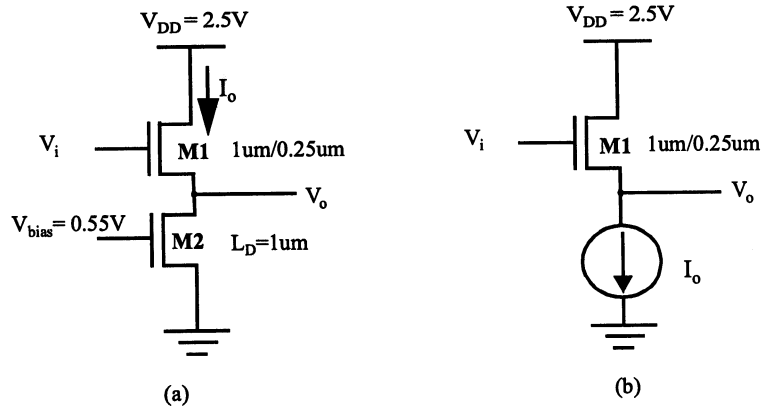

Figure 5.7 NMOS source follower configuration
9. The circuit in Figure 5.7 is known as the *source follower* configuration. It achieves a DC level shift between the input and the output. The value of this shift is determined by the current  $I_0$ . Assume  $x_d=0$ ,  $\gamma=0.4$ ,  $2|\phi_f|=0.6\text{V}$ ,  $V_{T0}=0.43\text{V}$ ,  $k_n'=115\mu\text{A}/\text{V}^2$  and  $\lambda=0$ .
- a. Suppose we want the nominal level shift between  $V_i$  and  $V_o$  to be 0.6V in the circuit in Figure 5.7 (a). Neglecting the backgate effect, calculate the width of M2 to provide this level shift (Hint: first relate  $V_i$  to  $V_o$  in terms of  $I_o$ ).
- b. Now assume that an ideal current source replaces M2 (Figure 5.7 (b)). The NMOS transistor M1 experiences a shift in  $V_T$  due to the backgate effect. Find  $V_T$  as a function of  $V_o$  for  $V_o$  ranging from 0 to 2.5V with 0.5V intervals. Plot  $V_T$  vs.  $V_o$ .